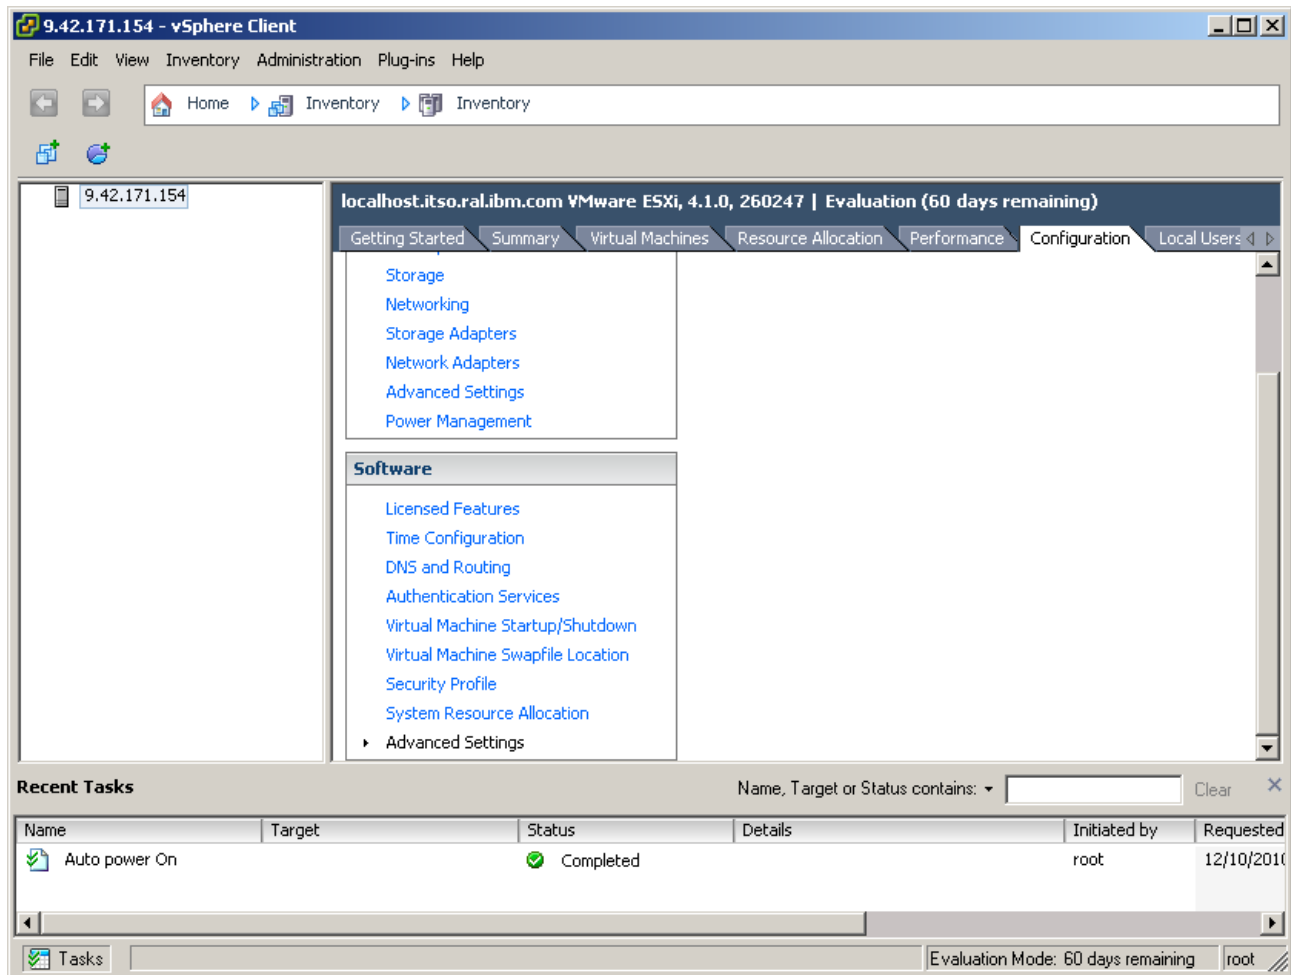

Figure 6-64 Advanced Settings in vSphere Client
15. Select the **Configuration** tab of the host and click **Advanced Settings** under the Software panel, as shown in Figure 6-64.